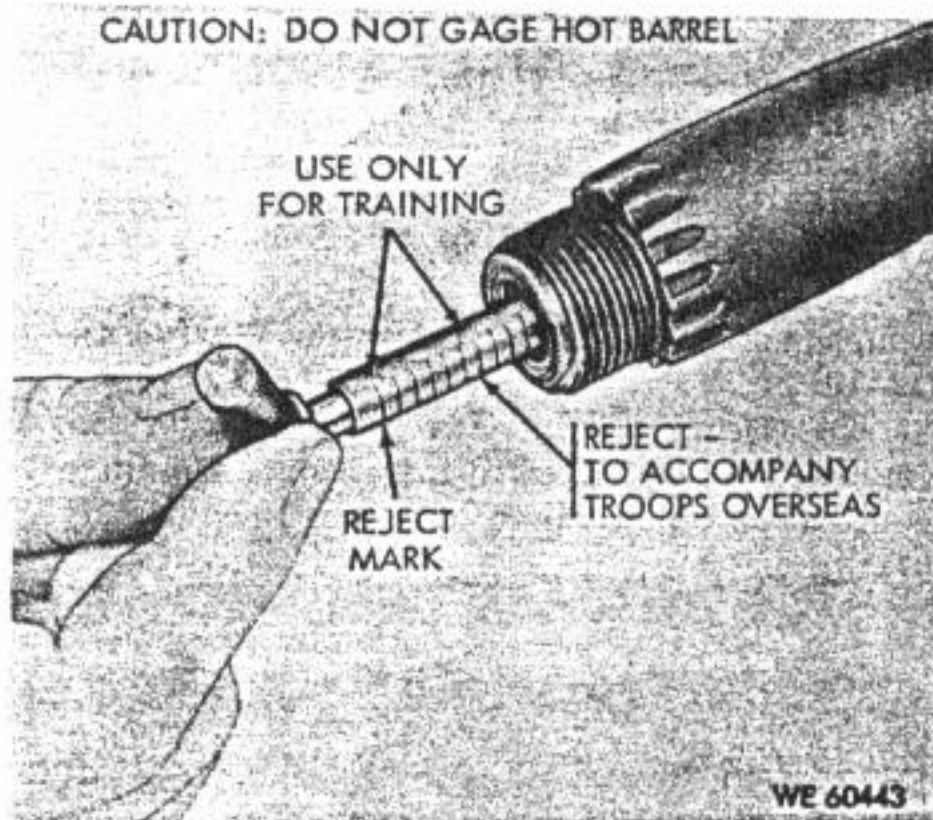

Figure 3-9. Maintenance procedures for determining serviceability of barrels with breech bore gage.
- i. Barrels will be rejected when reject limit on breech bore gage is reached (figure 3-9).